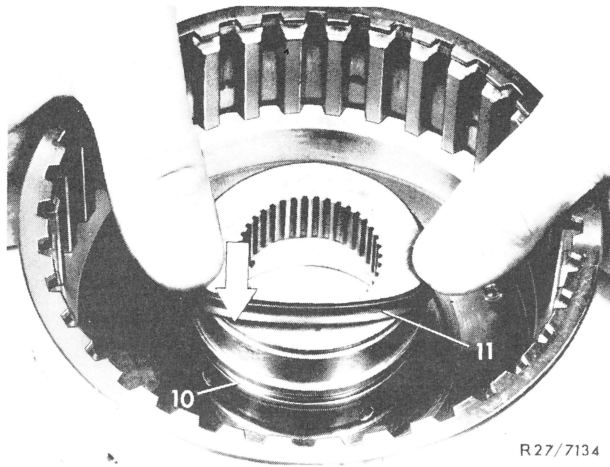

Fig. 6
7 Install new lip sealing ring (11) (Fig. 6).
The lip sealing ring should be correctly resting in groove (10) with the lip pointing downward (in direction of arrow) (Fig. 6).